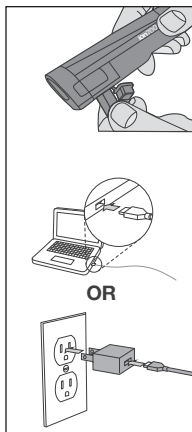

FIGURE 2.1.1
- Plug the micro-USB cable into the Ion 700 RT (Figure 2.1.1).